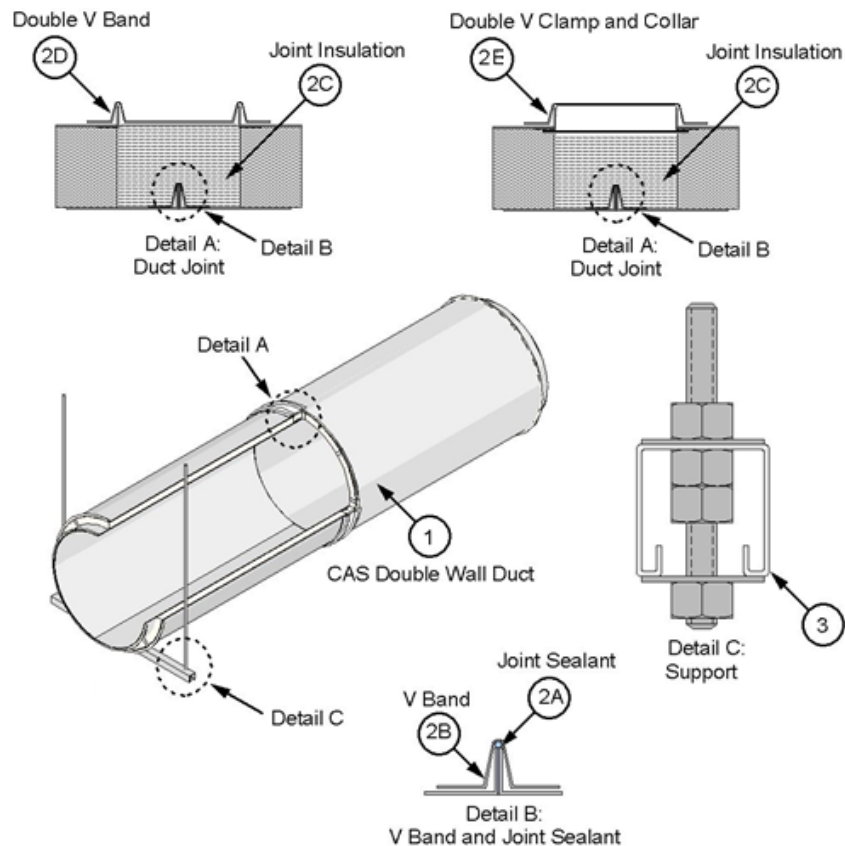

Figure 1. CAS Double Wall Duct and Horizontal Support
- B. **V BAND** – Use the supplied V band (see Figure 1). Place the loose V band, filled with joint sealant (Item 2A), over one of the inner duct flanges. Join to the other inner duct flange with the continuous bead of joint sealant (Item 2A) and rotate slightly to ensure complete coverage of joint sealant (Item 2A) on flanges. Ensure that the flanges are located within the V band and that the V band hardware is not at the bottom side of a horizontal duct. Tap the V band while tightening the integral 1/4-20 hardware to ensure flanges are aligned and pulled together. Tighten to 40-60 in.lbs.
- D. **DOUBLE V BAND** – Use the supplied double V band (see Figure 1) for grease duct diameters ≤ 24 in. Place double V band with the grease duct outer shell flanges seated in the V band; tighten integral 1/4-20 hardware to 40-60 in.lbs.
- E. **DOUBLE V CLAMP AND COLLAR** – Use the supplied double V clamp and collar (see Figure 1) for grease duct diameters > 24 in. Use the sheet metal collar to retain the joint insulation; overlap collar ends and fasten together with min. two min. size #6 sheet metal screws. Place double V clamp with the grease duct outer shell flanges seated within the clamp recess; tighten integral 1/4-20 hardware to 40-60 in.lbs.
- A. **HORIZONTAL SUPPORTS** – Support the pre-fabricated grease duct (Item 1) using min. 12 GA, 1-5/8 in. x 1-5/8 in. Unistrut® channel or 2 in. x 2 in. x 1/4 in. steel angle as the supporting cross-member and two min. 1/2 in. diameter, threaded steel rods connected using Grade 5 hex nuts and 1/2 in. hardened washers (see Figure 1, Detail C). For grease duct diameters > 24 -in., use supplied 12 GA steel saddles fastened to the Unistrut® channels with supplied 5/16-18 hardware. Connect the threaded steel rods to the bottom of the